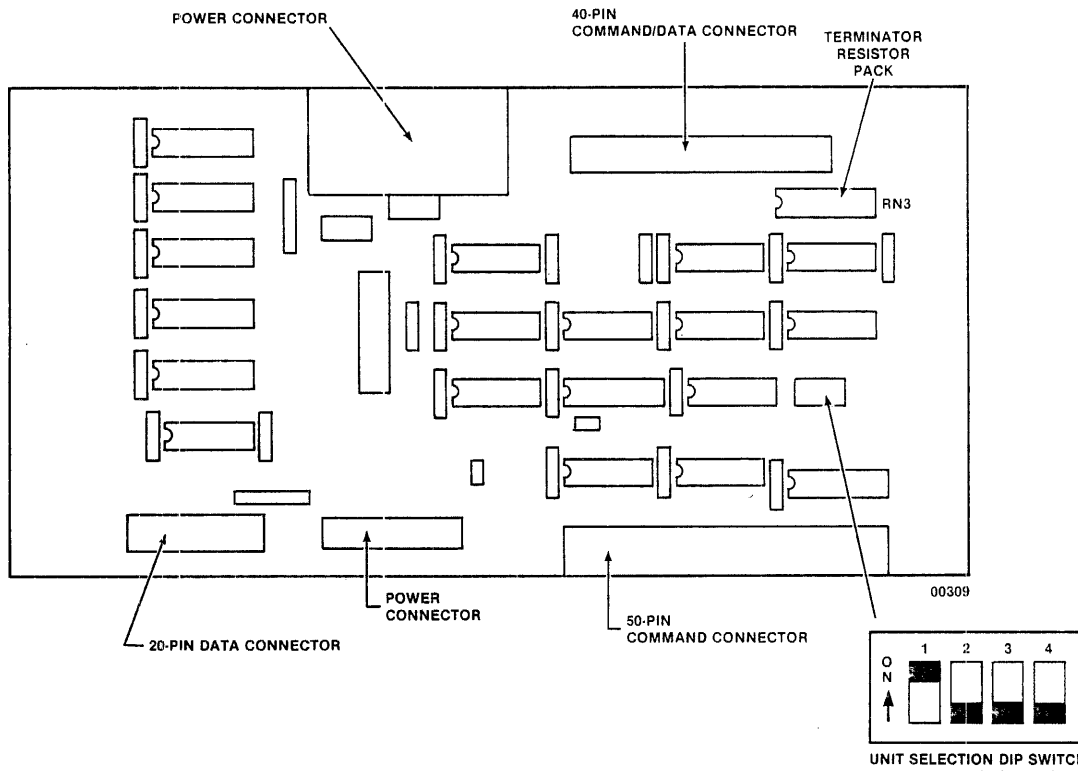

Figure 3-8 FINCH Adapter Board
- (1) Disconnect the 40-pin Command/Data cable connector, and the power connector, at the top of the FINCH Adapter Board.
- (2) Using a small Phillips head screwdriver, remove two (2) 4-40 x 1/4 -inch screws securing the Adapter Board to the mounting brackets.
- (3) Unseat the Adapter Board, and remove.
- (4) Verify that a terminator resistor pack is installed on the Adapter Board, as shown in Figure 3-8.
- (5) On the Unit Selection dip switch, verify that switch position 1 is ON (refer to Figure 3-8). The other switch positions must be OFF. The ZEUS software and SADIE diagnostic firmware will recognize the FINCH as Drive 0.